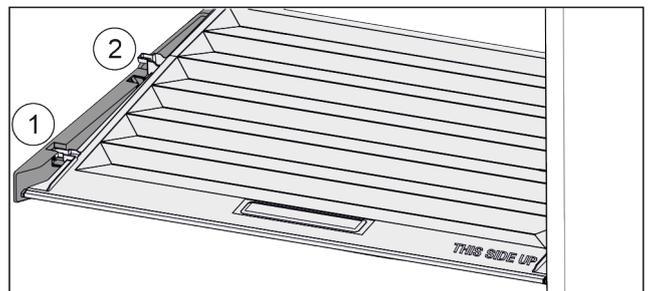

Fig. 53
- Pull the lid up at the front to the opening in the retaining parts Fig. 53 (1).
- Lift from the back and pull it up and out Fig. 53 (2).